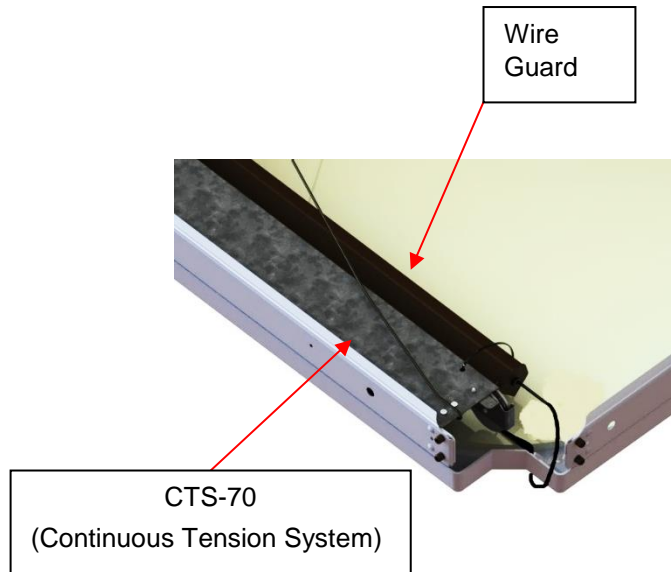
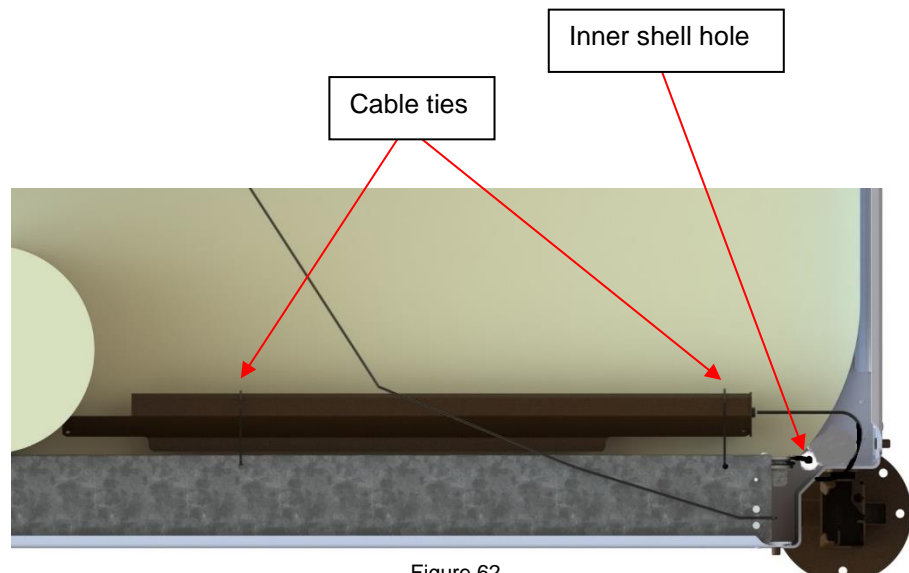

Figure 61
Figure 62
- 4) While holding the outer shell open, cut and remove the two cable ties that hold the wire guard. (Figure 61 and Figure 62)
- ♦ Ensure the wire is clear of the inner and outer shells before proceeding. The wire should only hang from the inner shell hole. (Figure 62)